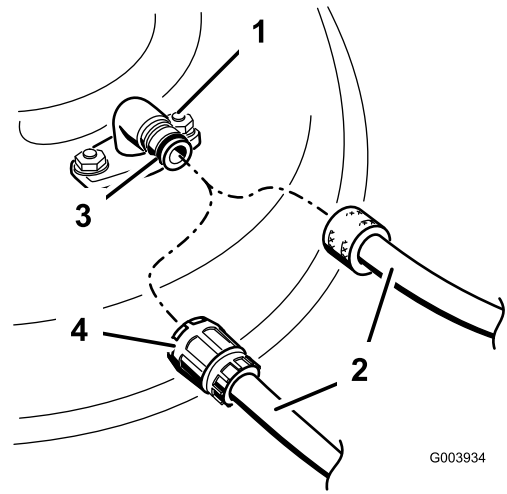

Figure 75
3. Attach the hose coupling to the end of the mower washout fitting, and turn the water on high (Figure 75).